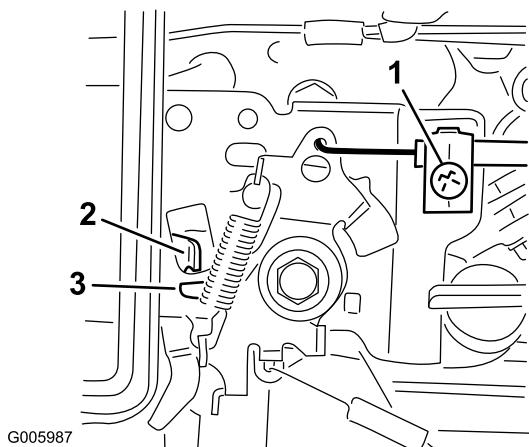

Figure 11
C. Move the throttle lever on the engine until the throttle lever just touches the choke lever (Figure 11).
D. Tighten the set screw (Figure 11).